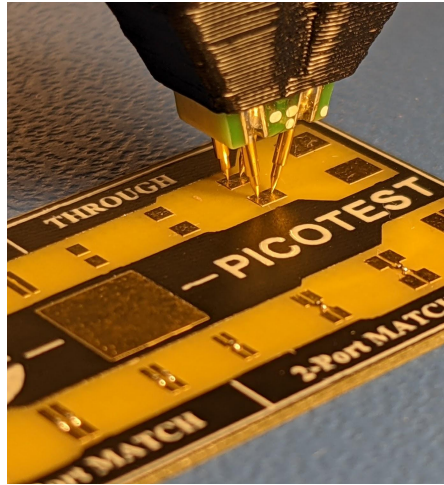

Fig. 16 - P2102A 2-port Calibration - Through.
Step 6: *Place Probe on calibration substrate as appropriate. Reference Figure 16.*
Step 14: *Place Probe on calibration substrate as appropriate. Reference Figure 16.*